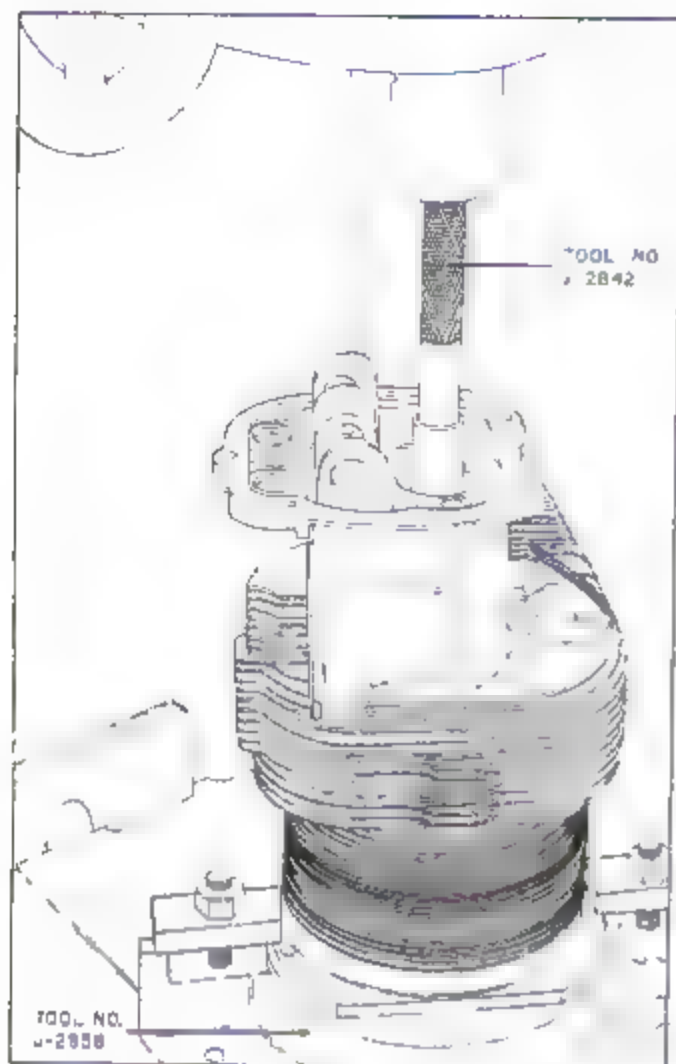

Figure 5-8. Installing Valve Guide
h. Bring the arbor press ram down on the driver, and check alignment of the tool with the cylinder. Apply pressure to drive the new guide into place until its flange stops against the cylinder head. (See figure 5-8.)